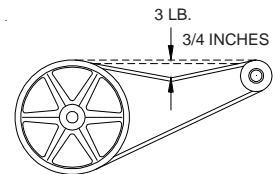

FIG. 7
- **Check belt tension.** A 3 lb. force should deflect the belt 3/4 inches (see Fig. 7). Readjust belt if needed.